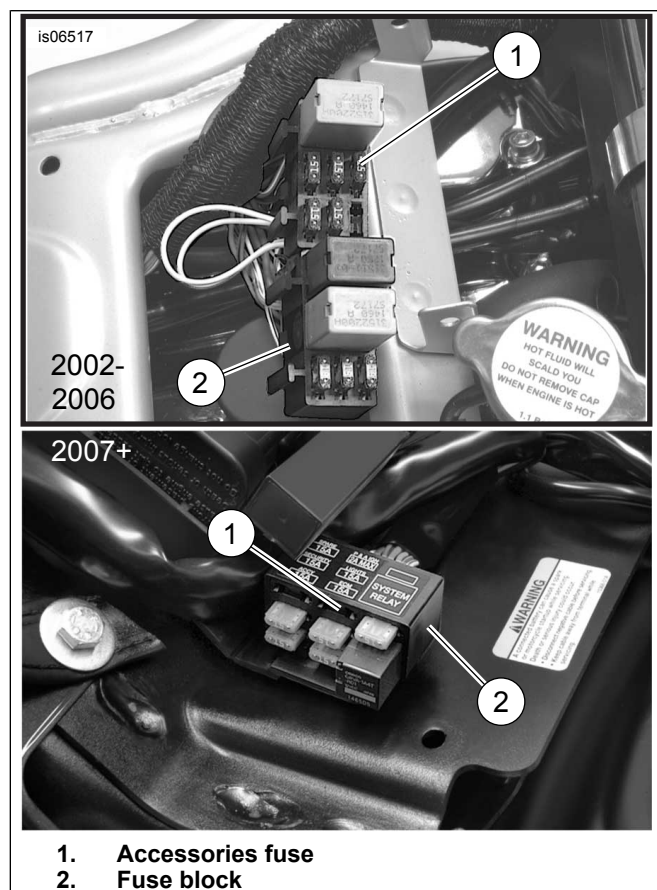

Figure 15. Accessory Fuse Locations (V-Rod Models)
1. See Figure 15. Carefully slice open an area of the main harness wrap near the fuse block (2) at an accessible point. Cut the orange/white main harness wire leading to the fuse cavity (1) marked: